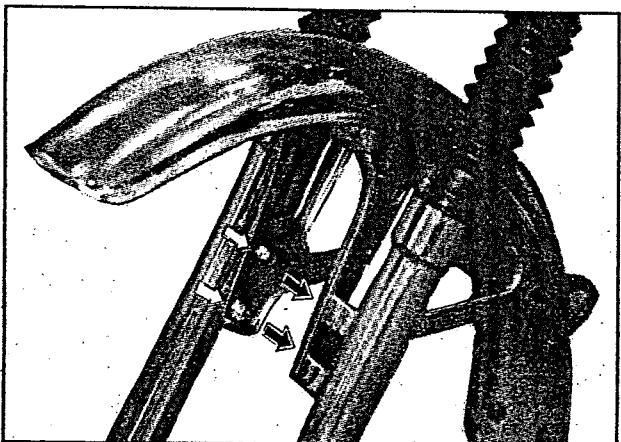

Fig 6.25
- Remove the front fender (fig 6.25)